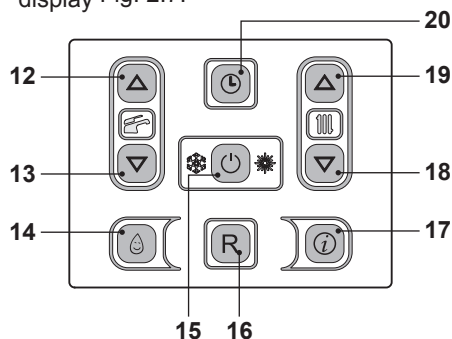

Fig. 2.7
Enter "programming mode" by holding down key 20 for 5 seconds (Fig. 2.7) until the display indicates the ⌚ symbol.
Use keys 18 (decrease) and 19 (increase) Fig. 2.7 to set the time, day and date values, using keys 12 and 13 to move from one parameter to the next.
- Press the key 15 for 2 seconds until both  and  symbols appear on the display Fig. 2.7.